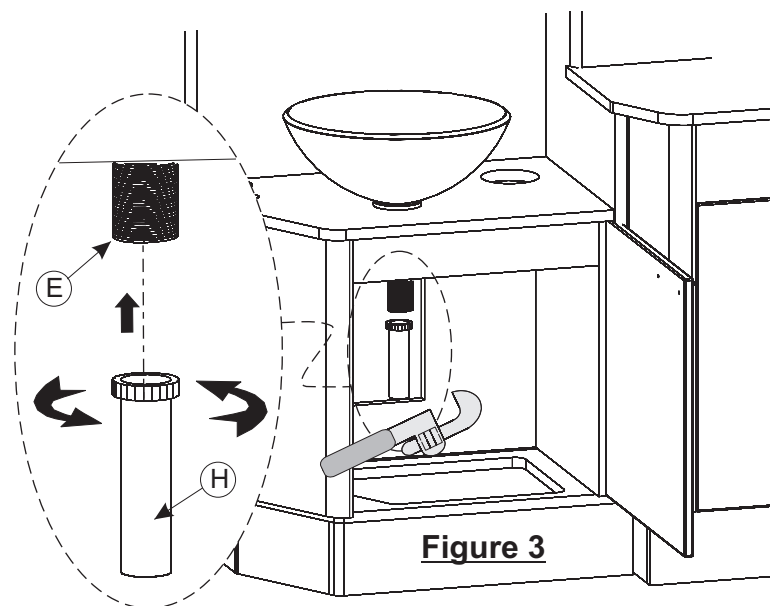

Figure 3
Connect Tail Piece (H) to Drain Assembly (E) and tighten using pipe wrench (see Figure 3). It may be necessary to cut off some of the Tail Piece to properly fit with remaining plumbing drain connections.